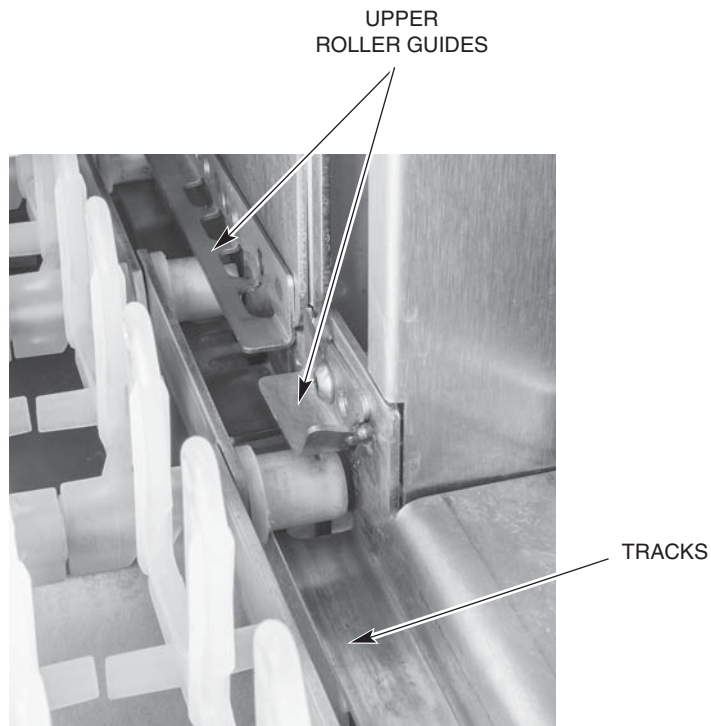

Fig. 35
- Tie a rope to the first conveyor rod. Feed the rope through the machine following the desired path of the conveyor with the flight links pointing up. The conveyor rollers must be fed between the upper roller guides and the tracks (Fig. 35).